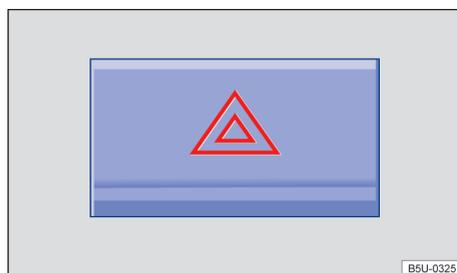

Fig. 37 On the upper portion of the centre console: warning lamp switch.
2. Switch on the hazard warning lights with the  → Fig. 37 switch.
Warning lamps may also be switched off via the  dash panel → Fig. 37 switch.